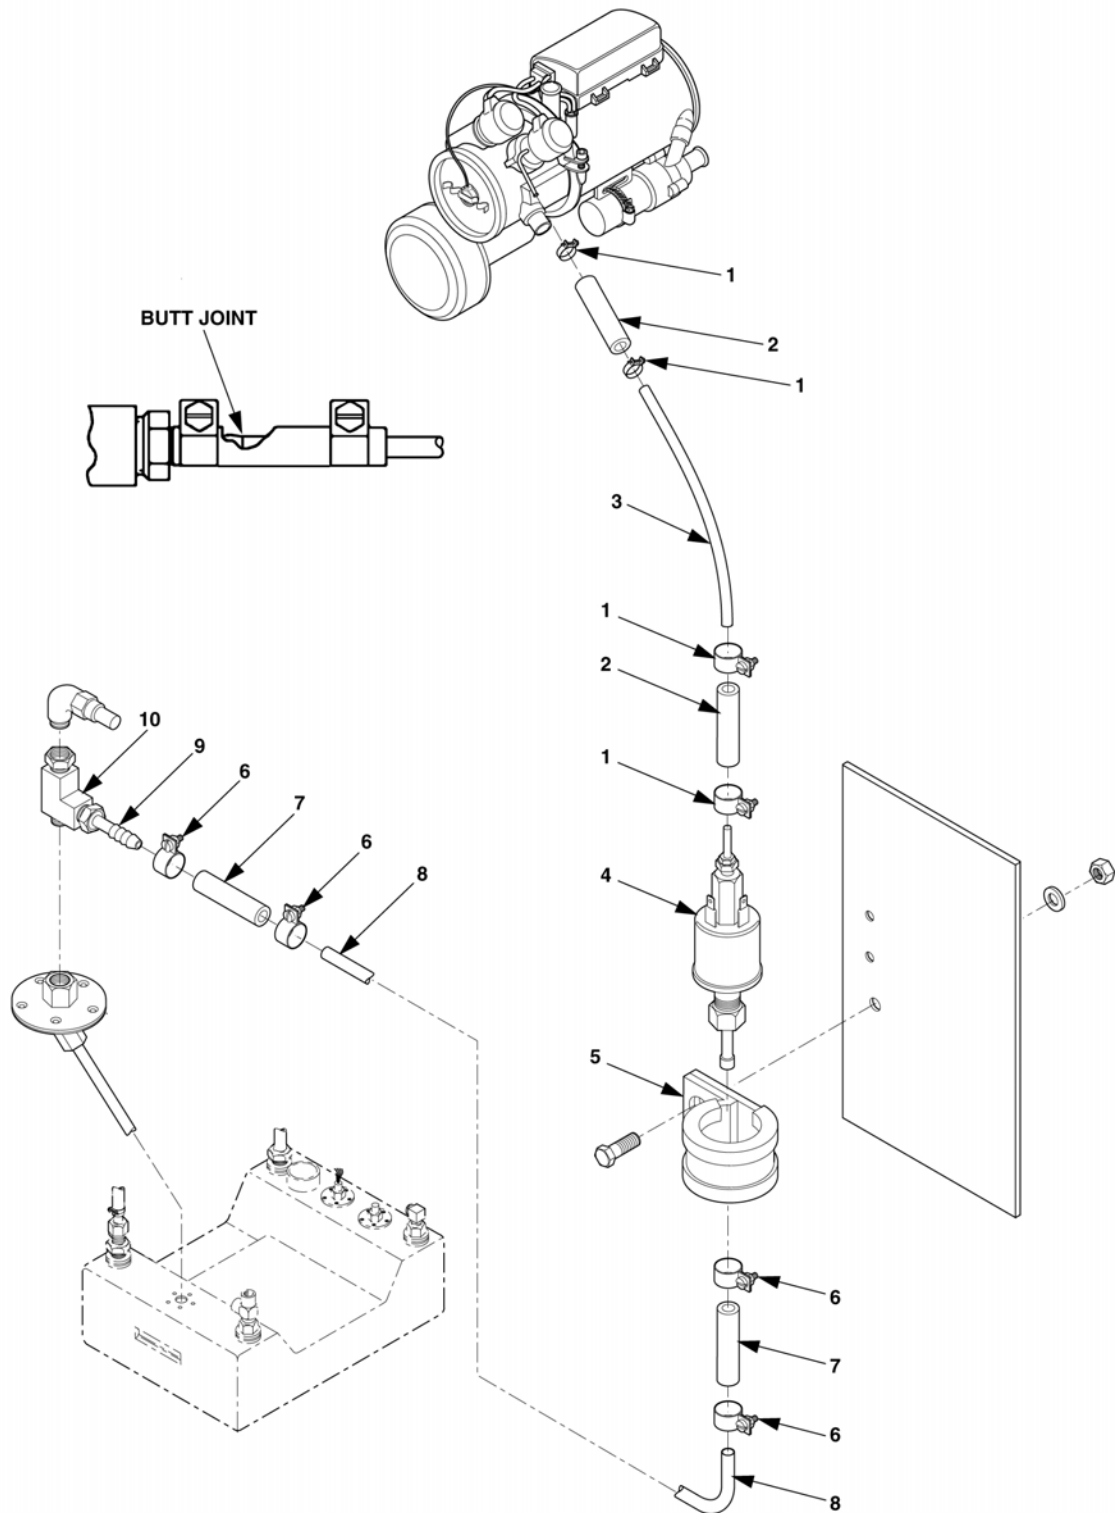

Figure 4-36. Fuel Pump and Lines Removal
8. Remove fuel pump, lines and hardware Figure 4-36, 1 thru 10 and replace fuel supply line. Be sure to use a suitable container to catch any fuel from lines.